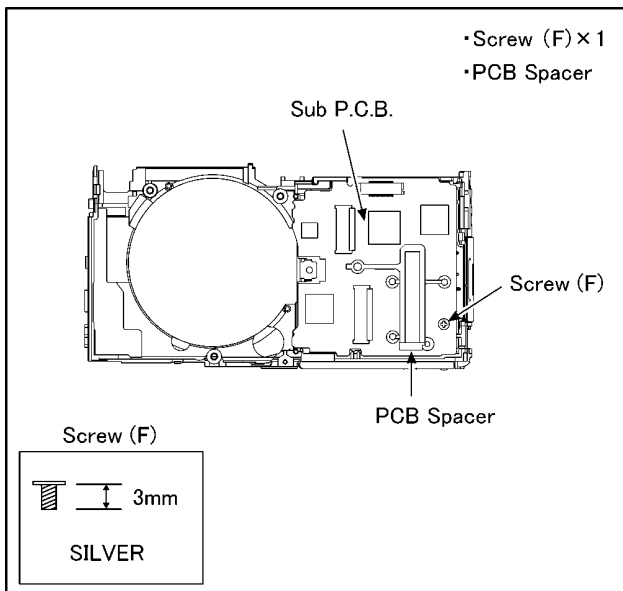

Fig. D12
| | | | 9 | Sub P.C.B. | Fig. D12 | 1 Screw (F) |